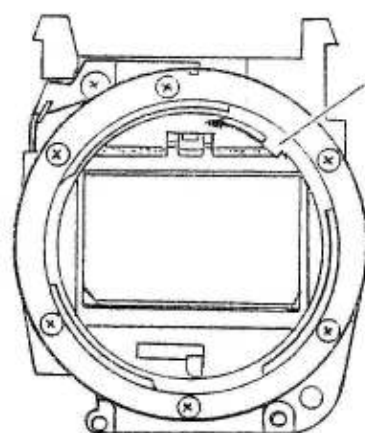

Fig.45
- 1) Turn the F. Stop Connecting Ring (13982310) until it comes in contact with the Stopper on the open side (in the direction of the arrow). (See Fig.45)